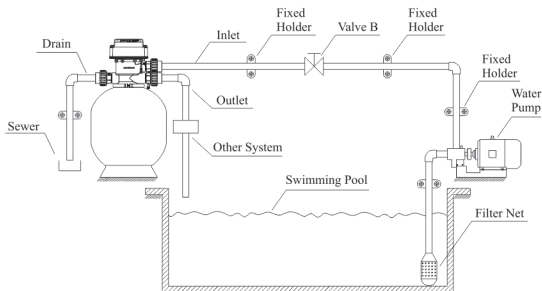

Figure 1-3
② As the Figure 1-3 shows, installation of Outlet/Inlet/Drain Pipeline.